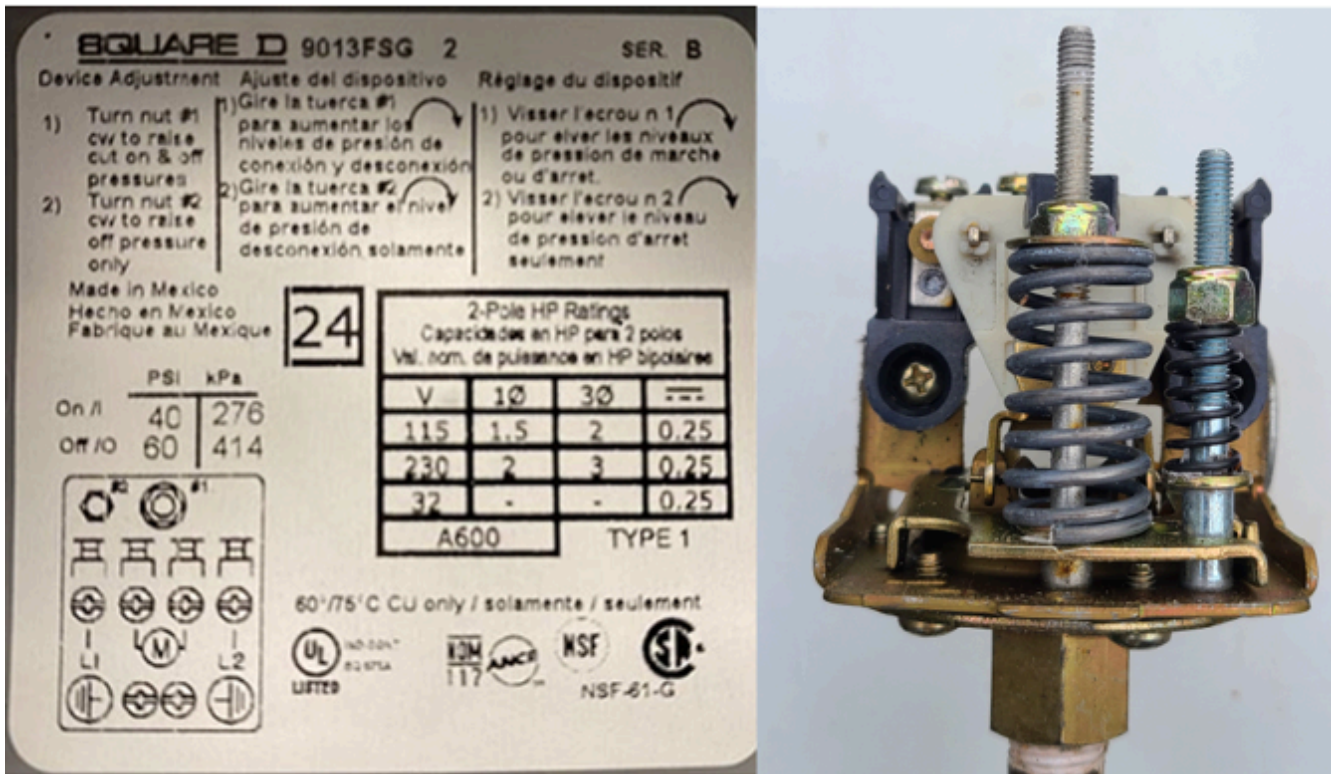

Figure 75. Pressure switch cover removed
- Loosen the nut on top to remove the cover on your pressure switch. Notice there is wealth of information given under the cover of the pressure switch including the factory pre-sets (Figure 75). You will notice two springs. The range adjustment nut on the larger center spring controls both the cut-in and cut-out settings together. The smaller spring controls only the highest pressure in the range (cut-out). This is a less commonly used part of the pressure switch, and you'll only want to adjust this one if you have a very specific reason to do so. *Remember that the 20 psi differential range is part of the overall system design that limits the amount of pump cycles in a day. If the range gets reduced to less than 20 psi it will shorten the pump run time and reduce the pump life.*
- Figure 75. “Pressure switch cover removed” by Camosun College is licensed under a CC BY-NC-SA licence.